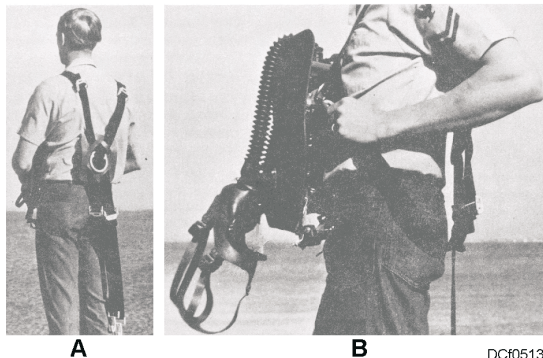

Figure 5-13. Step 2, donning the OBA.
Step 2. Find the two straps hanging free in back (fig. 5-13, view A). Attach the end of each strap to the ring on each side of the breastplate (fig. 5-13, view B).